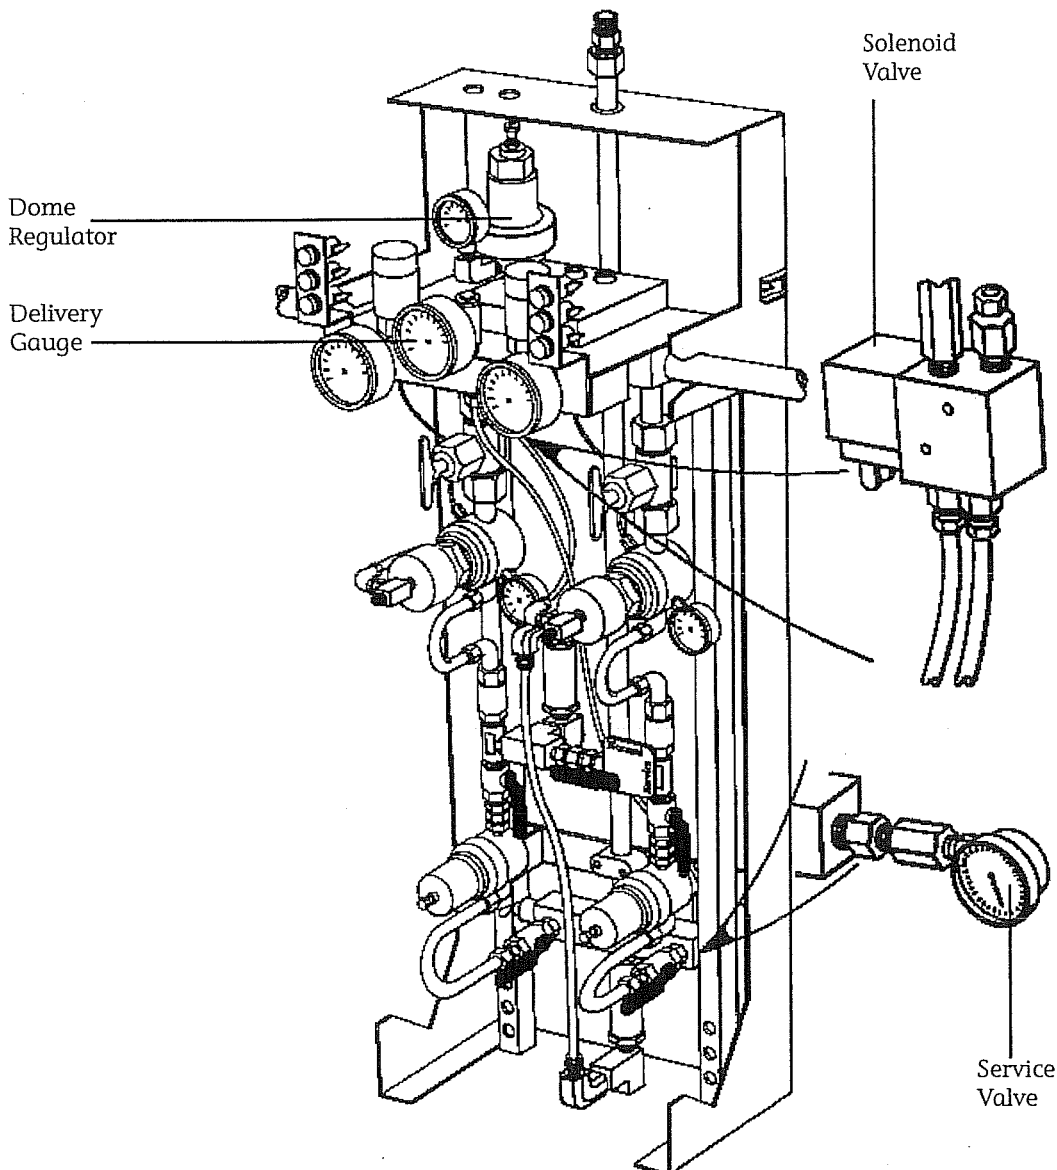

Figure 4-11
2. Insert a service gauge (Stock Number 6804-9040-032) into the fitting on the lower manifold block connector so that the delivery pressure can be monitored. (Figure 4-11)